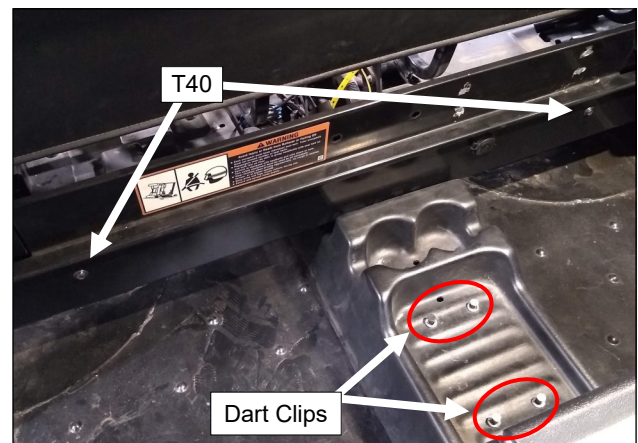

Fig. 1.2 Lower Kick Panel and Rear Center Console
- 1.2 Remove the rear lower kick panel, set aside along with its hardware. See fig. 1.2.
- 1.3 Remove rear center console and set aside it and the (4) plastic dart clips retaining it. See Fig. 1.2.